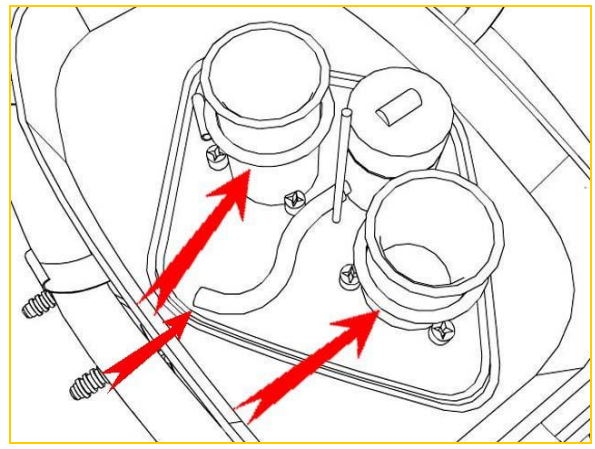

Fig 4
6. Slide the large O rings up the stacks to access the stack mounting screws. (The O-rings retain the screws should they become loose.) Remove the 6 screws and the velocity stacks. (Fig 4)